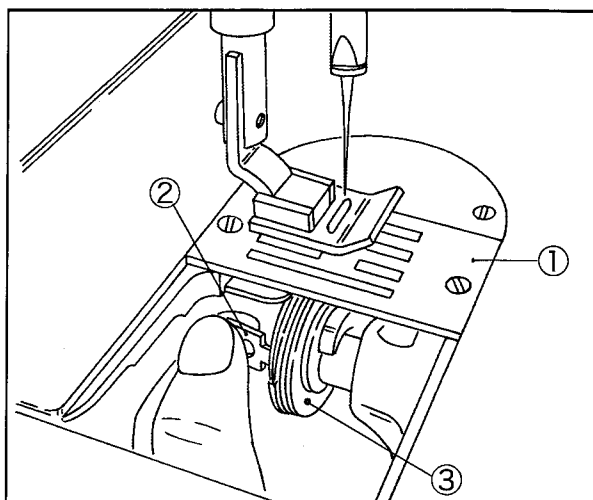

Fig.18
Lift up the knob ② in Fig.18 and take out the bobbin case from the hook ③.
Lift up the knob ② in Fig.18 and install the bobbin case into the hook ③ by holding the knob ②.